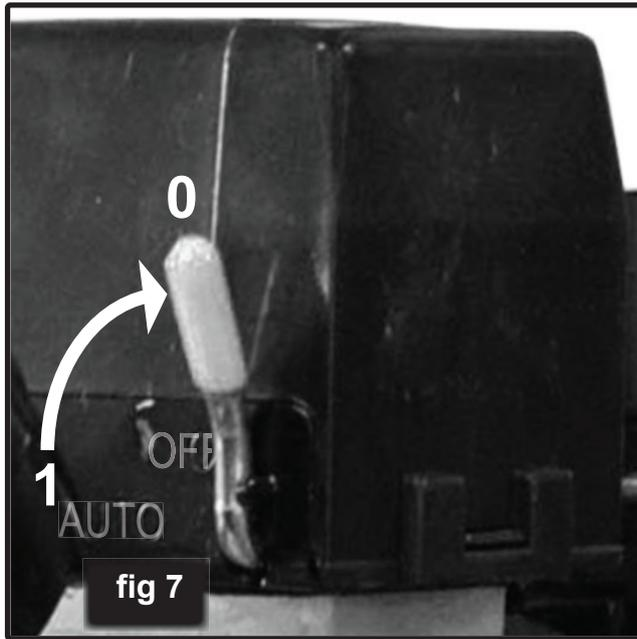

fig 6
1. Make sure the drainage valve (fig 6) is closed and not in the open position.
- Drain the tank by slowly opening the drain valve (fig 6). Place a catch basin under the valve to protect the surface from water damage.